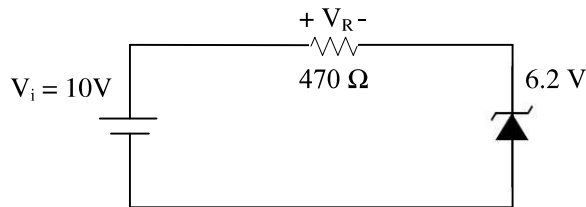

Fig. 3: Circuit with No Load
1. Draw the I-V characteristic of Fig. 3 (circuit with no load )and
1. Connect the circuit as shown in the Figure 3.